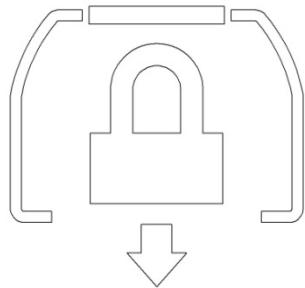

FIGURE 1
5. Pivot handle up and snap into the handle holds on each side of the lid. See FIGURE 1 below and on sides of vacuum head for handle hold locations. Some handles may have to be pushed to one side then the other. (**Note:** Positioning the vacuum head on the bucket with the vacuum tool rest on the opposite side from where the handle will be raised into the locking position will make this step easier.)